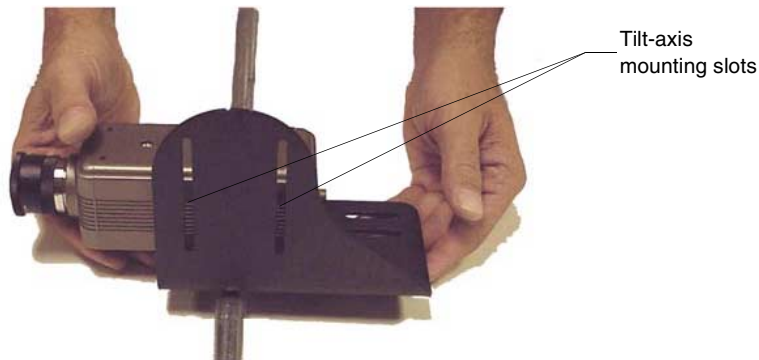

FIG. 20 Balancing the camera/lens cradle assembly
5. Place the assembly on the balancing beam and while maintaining the cradle centered on the pipe, slide the camera along the cradle's grooves until the camera and cradle remain balanced on the beam (FIG. 20).